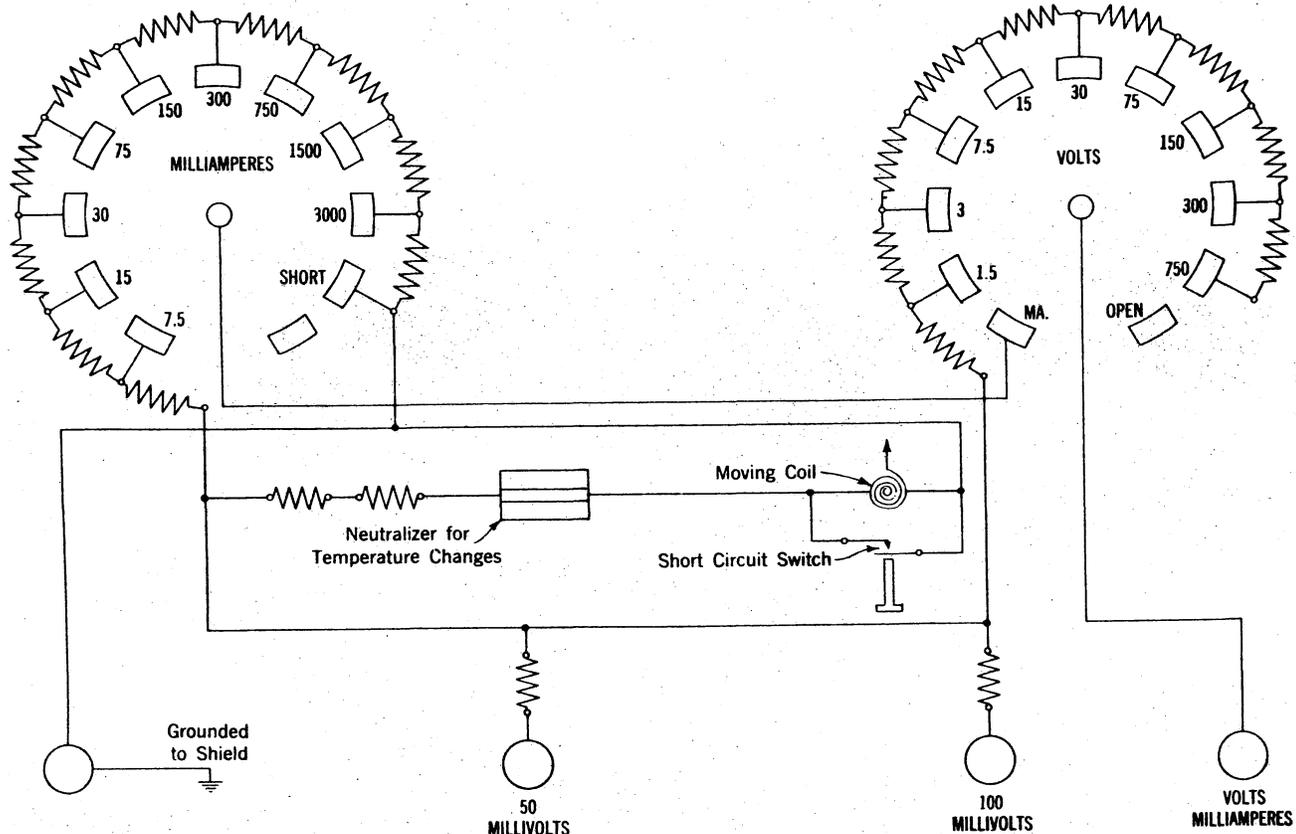

Fig. 2 - Circuit Arrangement of Weston Model No. 622 Volt-Milliammeter.
3.03 The circuit arrangement is shown in Fig. 2.